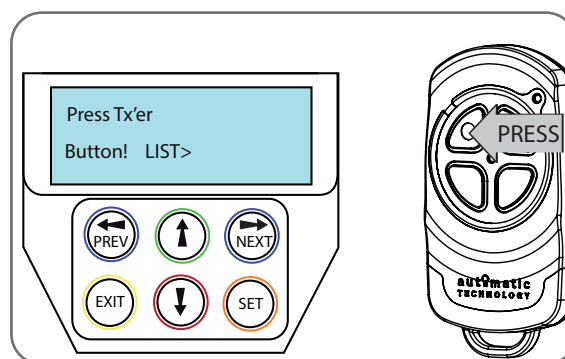

Fig 10.2
- Press the transmitter button you wish to use to operate the Gate Opener (e.g. button 1) (Fig. 10.2).